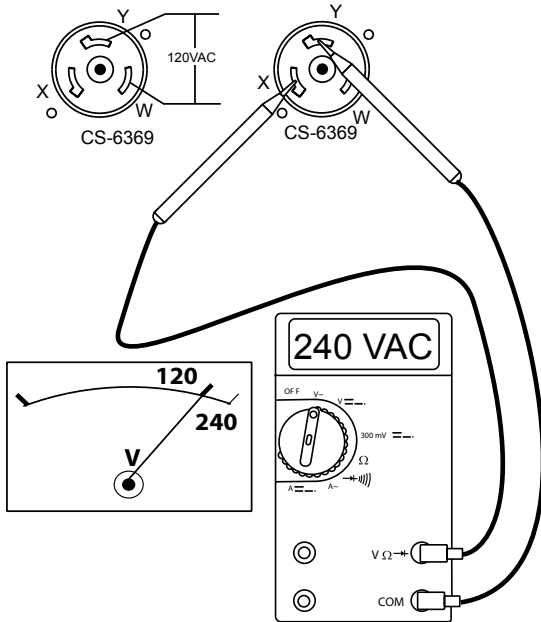

Figure 27. 120/240 CS-6369 Receptacle
- The CS-6369 receptacle is a dual voltage receptacle (120/240 volts). Using an external voltmeter as shown in Figure 27, verify that 120/240 VAC is present at the CS-6369 twist-lock receptacle.